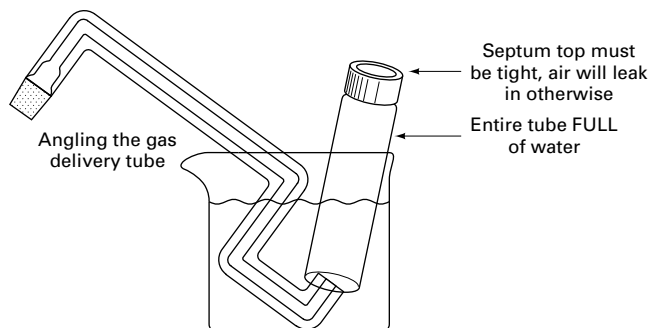

FIGURE 5.8 Setting up for gas collection.
4. Angle the straight end of the **capillary gas delivery tube** under and into the gas collection reservoir (Fig. 5.8). Believe it or not, the gas collection reservoir, sitting atop the capillary gas delivery tube, is fairly stable, so you can put this aside until you need it.